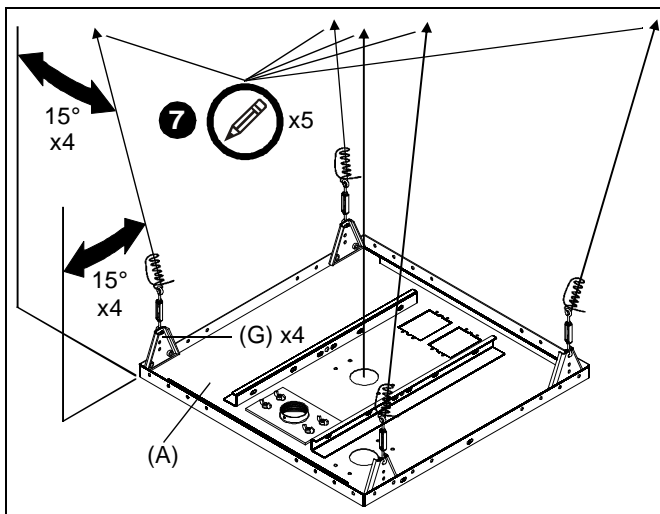

Figure 5
7. Examine ceiling structure (concrete, steel truss, or wood) above tray (A) to identify the following (See Figure 5):
- Four support wire anchor locations, each approximately 15° outboard of corresponding hanger bracket (G). Mark locations with pencil.
- One safety cable anchor location directly above center of tray (A). Mark location with pencil.
NOTE: Hanger brackets (G) and turnbuckles (J) are installed later; they are shown in Figure 5 for reference only.